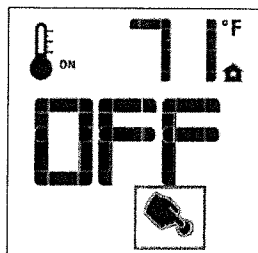

Figure 7.16 Lamp Control.
- The auxiliary function controls the Accent Lamp power. Press the Mode Key to index to the AUX icon. Figs. 7.16 - 7.17.